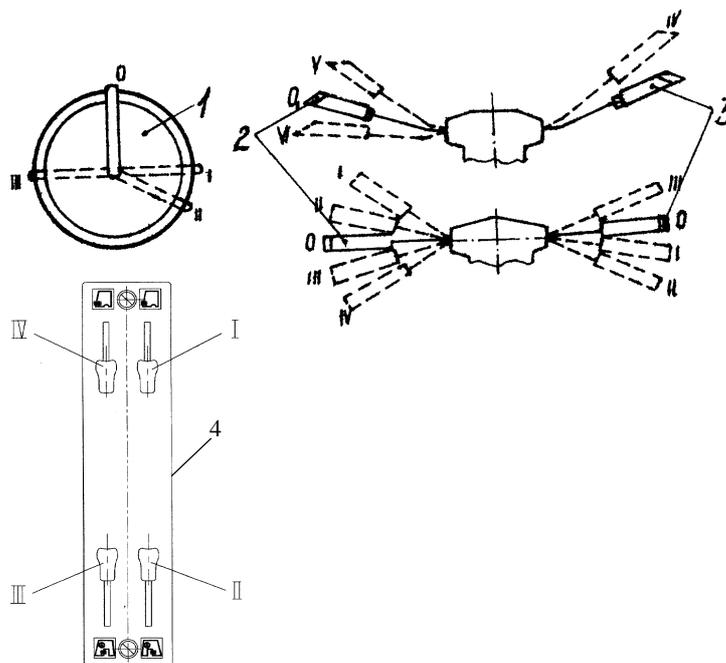

Fig. 1. Controls:
The layout of controls and instrumentation of the trucks is shown in the Figs. 1 and 2.
The key is to be inserted and pulled out when in the position III (Fig. 1)
The electrically driven two-speed three-blade windshield wiper is intended for cleaning the windshield and is switched on by the handle 3 (Fig.1) located on the right-hand side of the steering column.
1. Prior to switching on the independent preheater, shift the handle 1 of the valve control lever of the cab preheater on the panel 4 (Fig.1) against stop in the direction of the symbol (up to the stop, the valve position «open»). Thus the lever on the valve (is installed on the preheater) shall be turned by the drive to the left (counter-clockwise) against stop.